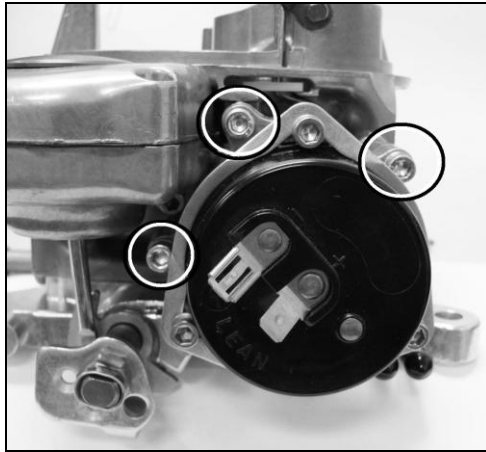

Figure 8
10. The next step is to begin stripping the main body and the choke assembly. Before loosening any screws, note the position of the adjustment index so that the same setting may be achieved when the carburetor is reassembled. Remove the 3 hex head screws holding the choke unit to the carburetor. Rotate the choke out of your way (Fig. 8). On integral hot air chokes, it may be necessary to scrape away the carbon deposits on the plastic cover.